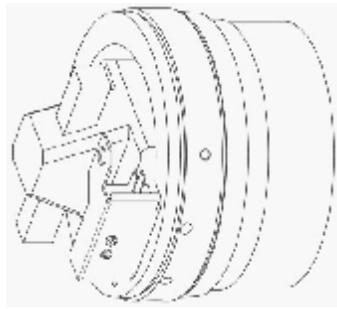

Figure: 2
1. Carefully remove the front hood with flexible hose. For this you need the screwdriver with a wide blade. Use the screwdriver as a lever to loosen the front cover. Then disconnect both flat plugs from the switch of the board. Next, remove the rear part of the housing consisting of rear hood, filter, perforated plate and spacer ring. For this you need the screwdriver with the wide blade, again. Now, you should have a motor unit, as shown in figure: 2